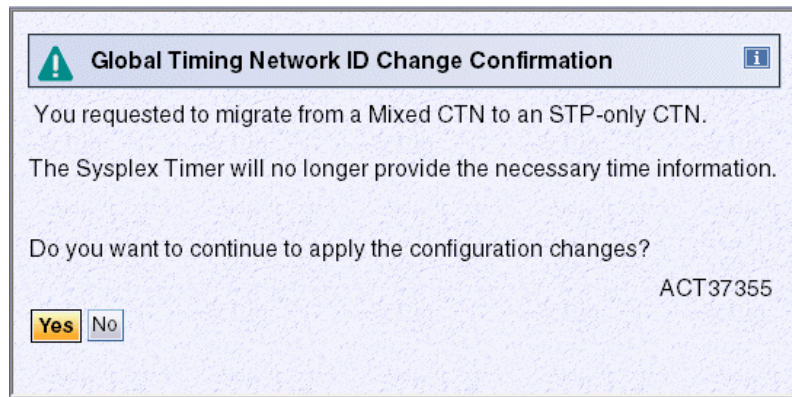

Figure 14-12 Message ACT37355 - Network Configuration tab (SCZP201)
4. Click **Apply**. This displays the Global Timing Network ID Change Confirmation, message ACT37355 (Figure 14-12).